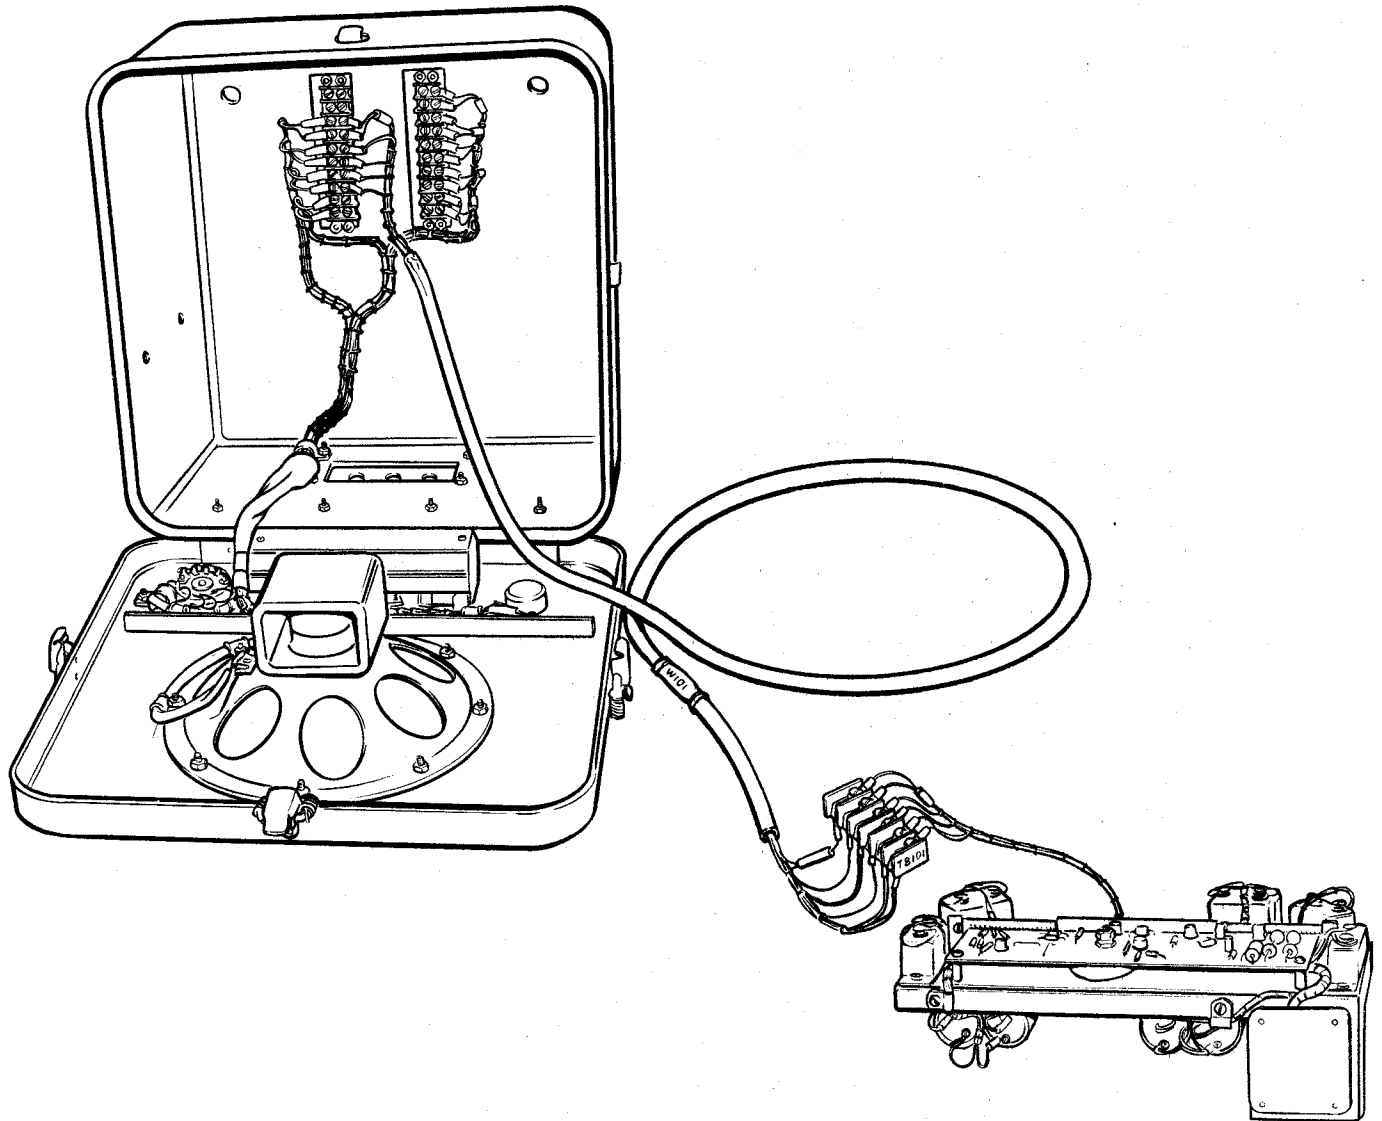

Figure 5-6. Trouble-Shooting Hook-Up
(1) First confirm the suspected condition before proceeding with any tests.
(2) Next determine and recognize the possible causes.
(3) Isolate the cause (or causes) by performing a series a quick tests.
(4) Table 5-1 is a list of test equipment required for trouble-shooting and service of the speaker amplifier. Equivalent test equipment may be substituted for that listed in table 5-1.
(5) See table 5-2 for a list of troubles, nature of trouble, and their symptoms.
c. Test cable W1 is used for trouble-shooting with the chassis removed from the enclosure. See figure 5-6 for trouble-shooting hook-up.